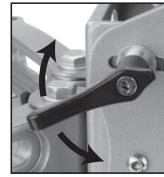

Fig. 7
6. To adjust the tilt position of your display, have one person hold the display in place while another person loosens the two tilt adjustment knobs located on either side of the mount (see Fig. 7). Once the knobs are loose, move the display to the desired angle. Tighten the knobs securely before releasing the display. NOTE: The tilt adjustment knobs have a ratchet feature. If you need to change the position of the knob without tightening or loosening the screw, simply pull the knob out before moving it.